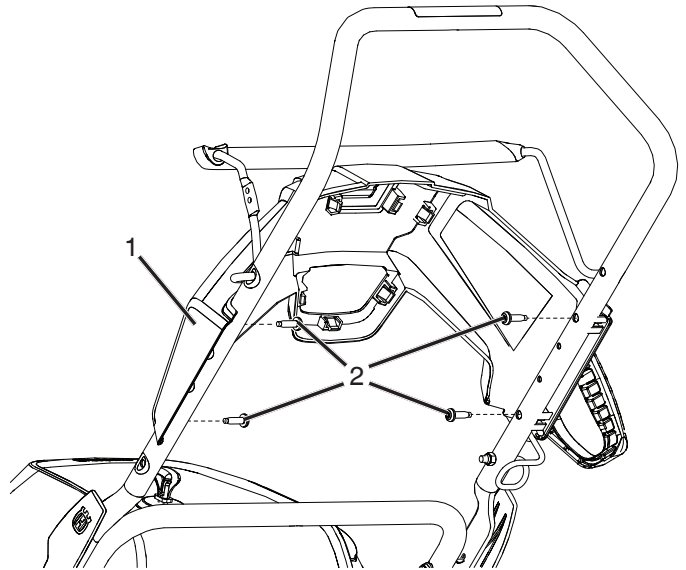

Figure 5
1. Install the upper handle cover to the handles using four screws (Figure 5).